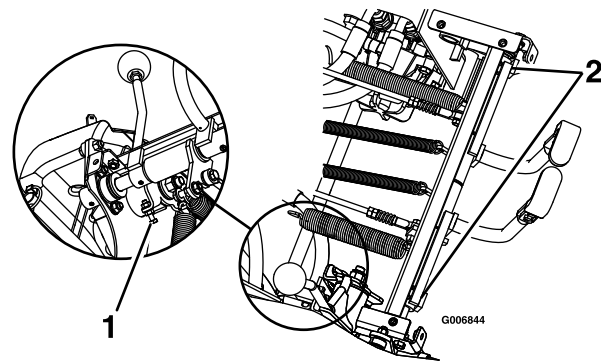

Figure 18
3. If either steering control lever surface does not contact the stop bar at the full forward speed position, adjust the stop bolt until contact occurs (see Figure 18). Once contact occurs, turn the stop bolt one more full turn to prevent bottoming of the hydraulic pump internal stops.